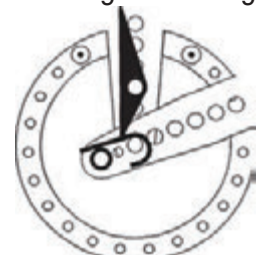

Figure 10
Step 7) With the workpiece as tight against the Long Hitch Pin (1#) in the center as is possible, make a right angle bend-see **Figure 10**.